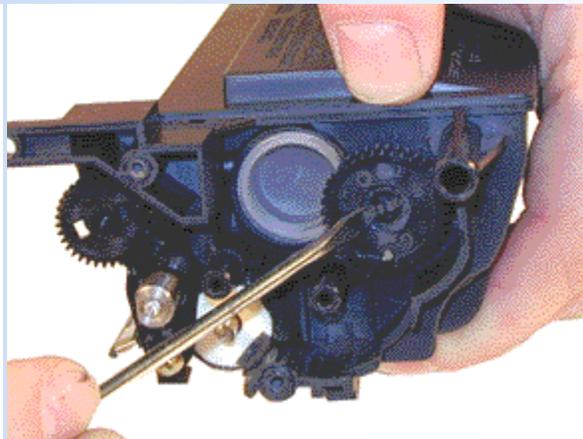

FIGURE 21
15. Remove the gear from the fill plug area by pressing in on the tab. See Figure 21